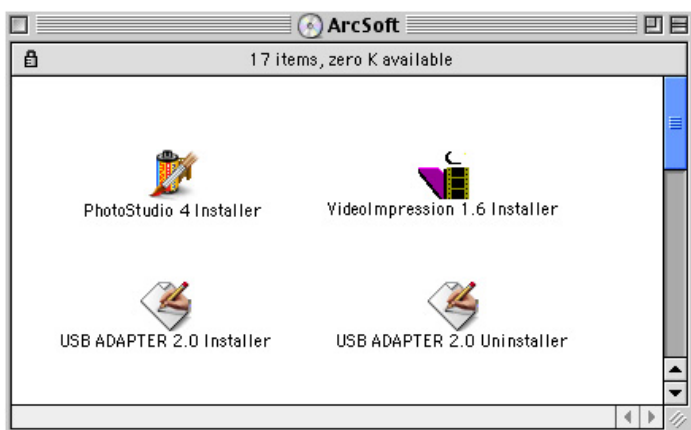

Figure 7. Contents of USB Software and Driver Disk
1. Double-click the Video Impression 1.6 installer (see Figure 7) and follow the onscreen prompts.